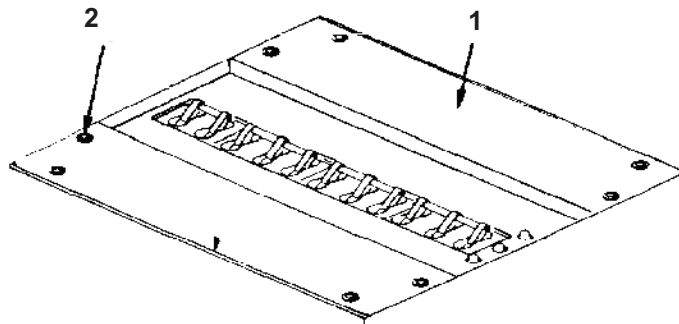

Figure 2. PDISE Circuit Breaker Panel Board
1. Remove screws (Figure 2, Item 2) securing panel cover (Figure 2, Item 1) to distribution center.